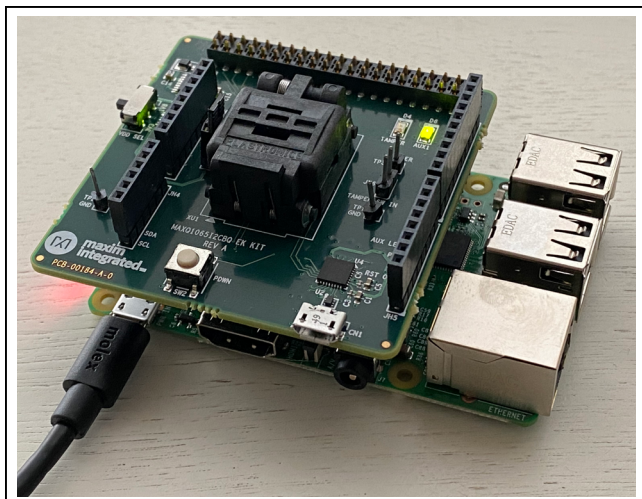

Figure 4. Raspberry Pi Powered on through its Own USB Connector
- 5) Power on the Raspberry Pi board through its own USB connector, as shown in Figure 4.